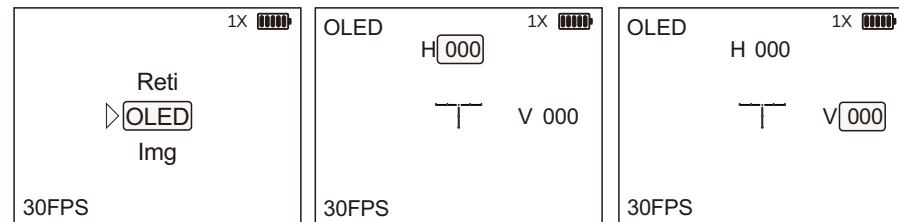

Fig 15
b. OLED Display Calibration: From the CAL menu, press the button to select OLED, click the button to enter the OLED settings interface. Press the and buttons to adjust the vertical (H: -50~50) and horizontal (V: -50~50) parameters and adjust the display image position. The reticle and display images move synchronously during this calibration step. (See Figure 15)